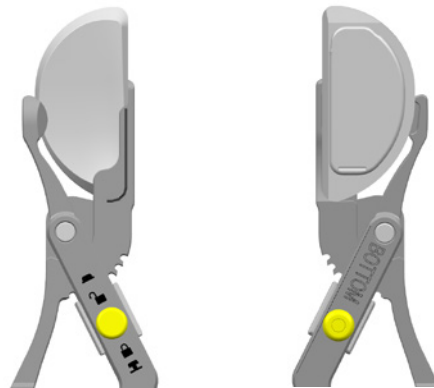

Figure 59
6 Once the curved arm contacts the insert, continue to close the handle for one (1) additional click from the locking mechanism (Figure 59). Examine the stability by gently pulling on the insert.